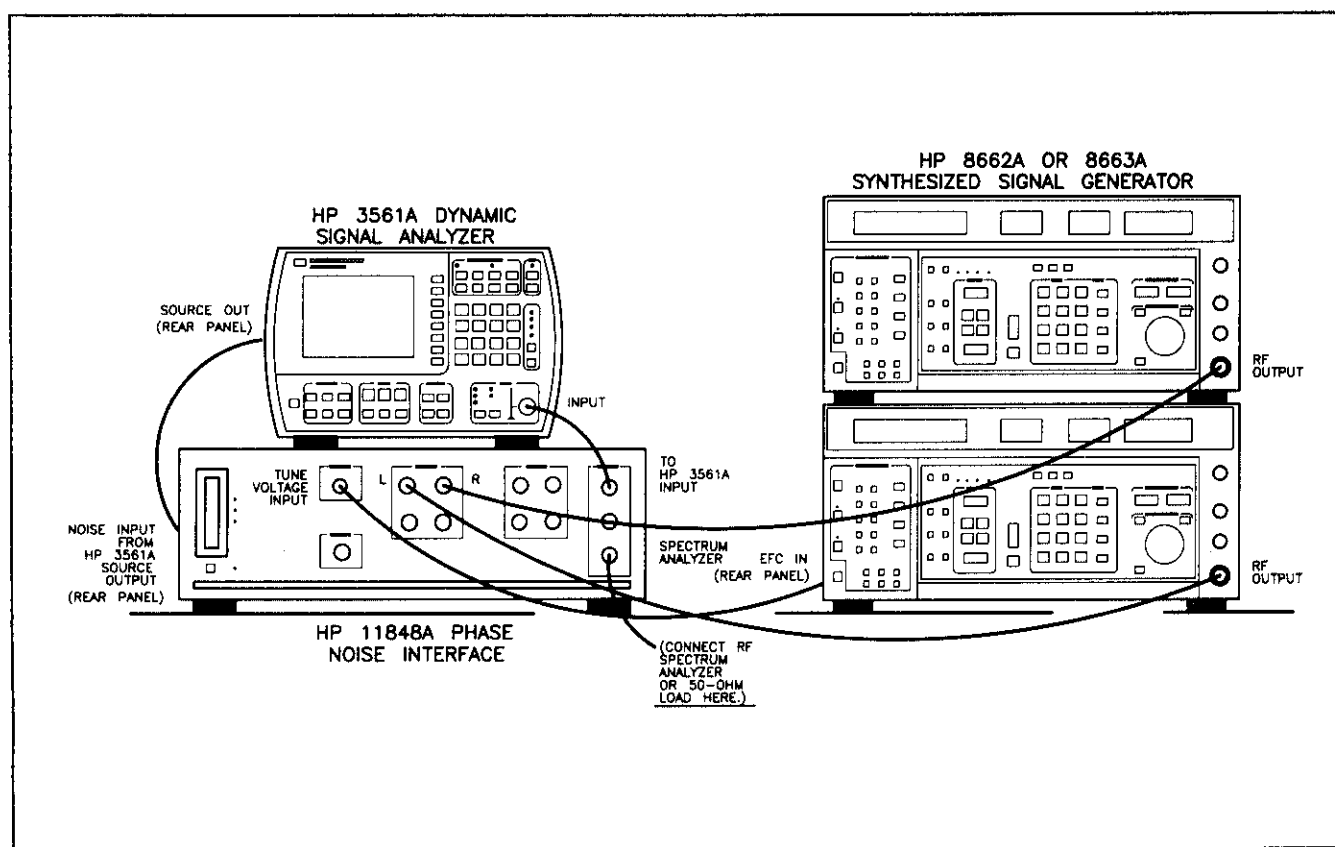

Figure 33. Spectral Purity Test Setup for Options 001 and 002
10. Connect the instrument as shown on the display and in figure 33.